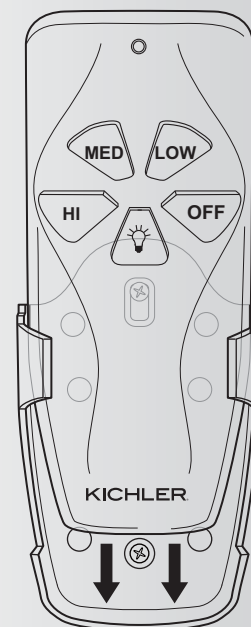

Fig. 27
2. Your transmitter slips into the wall pocket and may be used from this location or removed and used as a Hand Held mobile transmitter. (Fig.27)